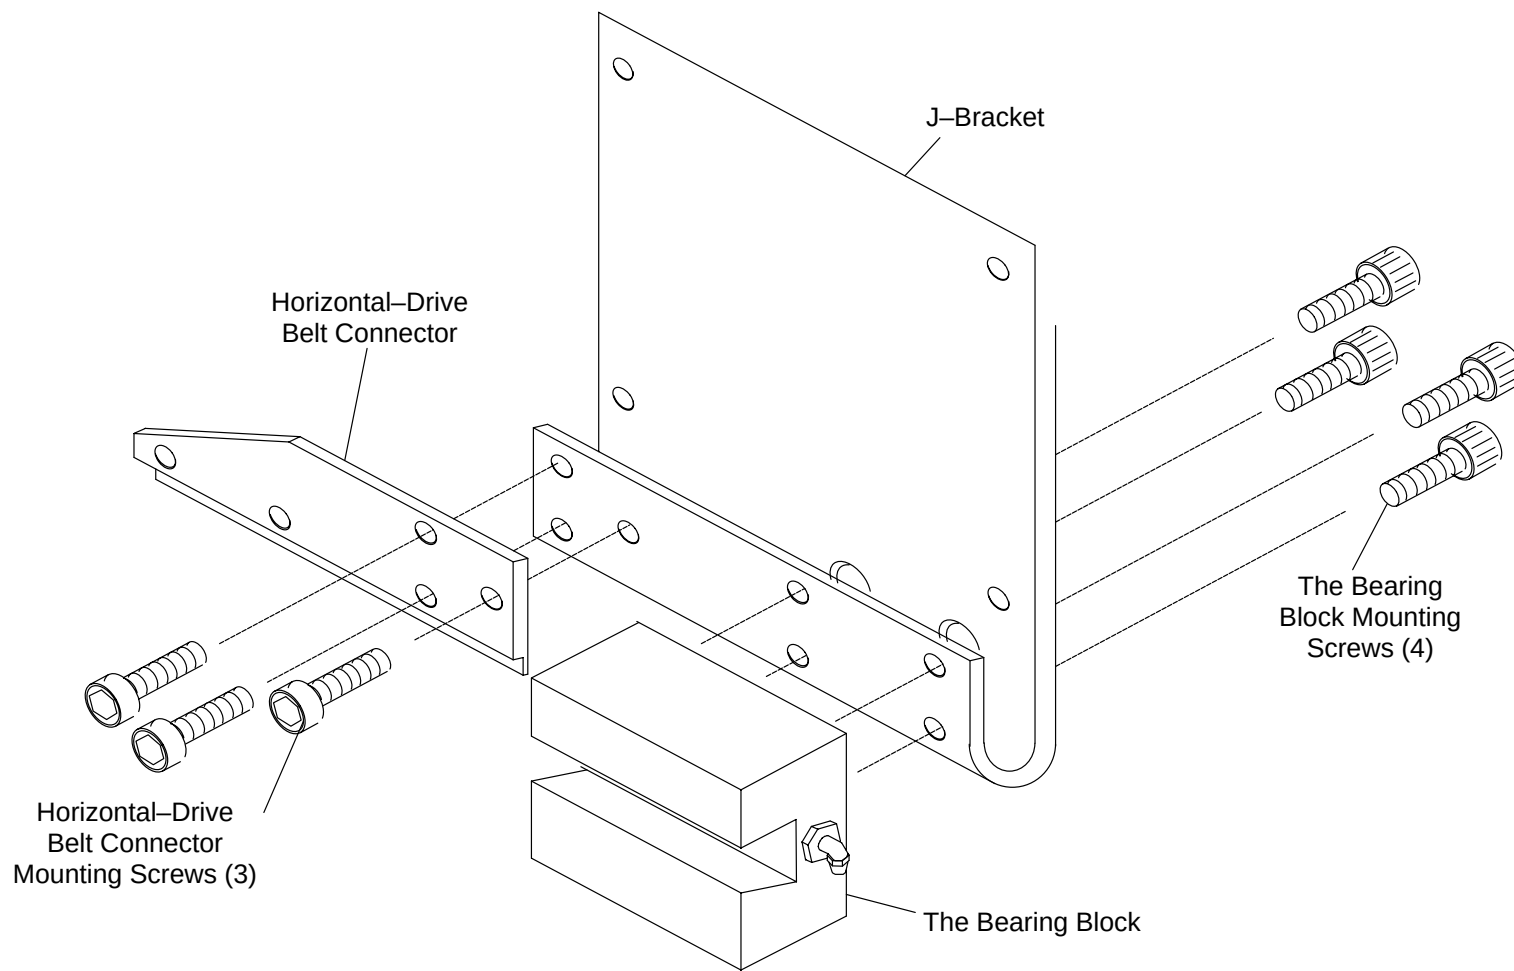
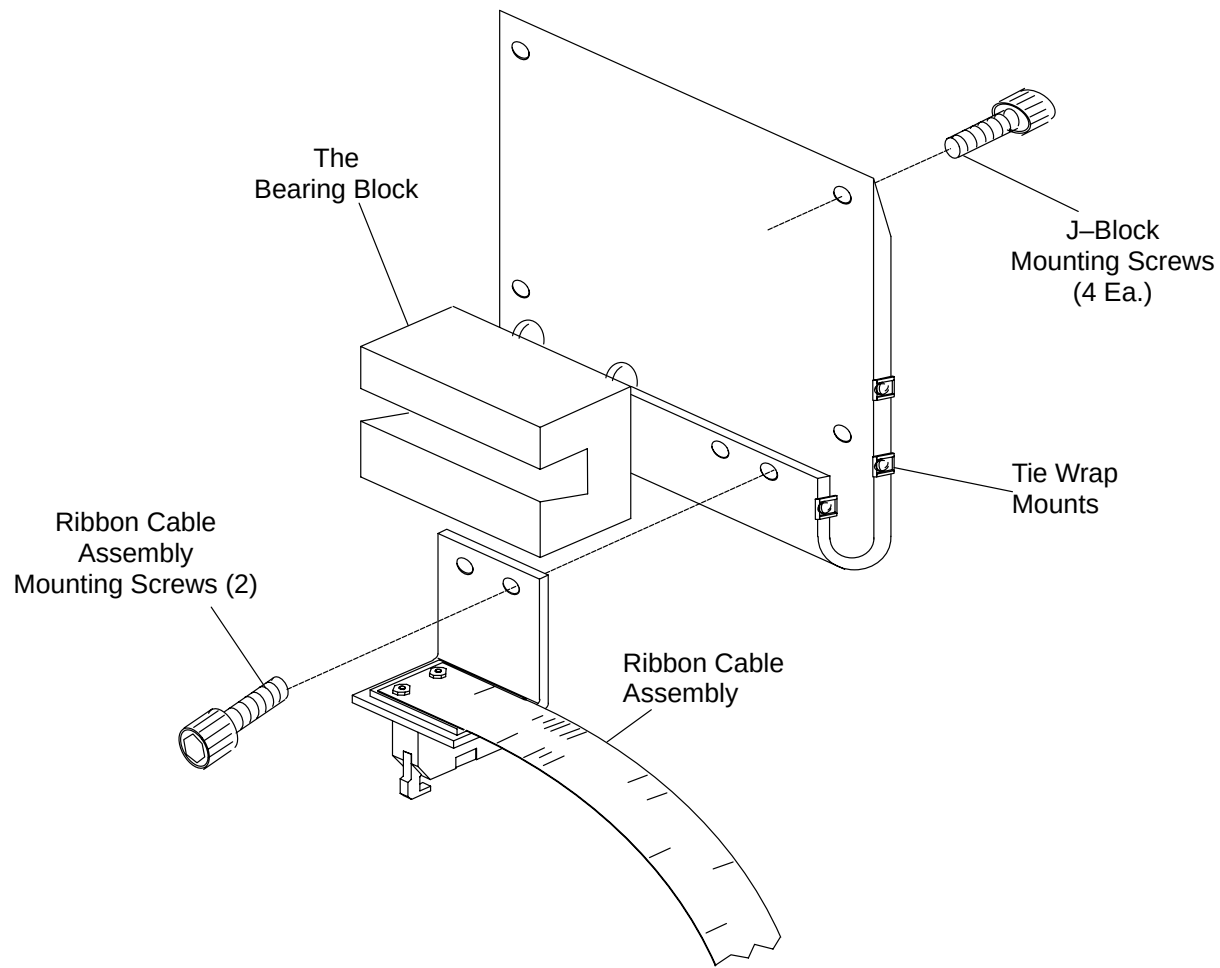

FIGURE 196 RIGHT REAR MOUNTING BLOCK ASSEMBLY
FIGURE 197 LEFT REAR MOUNTING BLOCK ASSEMBLY
6. Remove the defective Bearing by taking out the four Screws and pulling the THK Bearing Block from the J-Block. See Figure 196 and Figure 197.